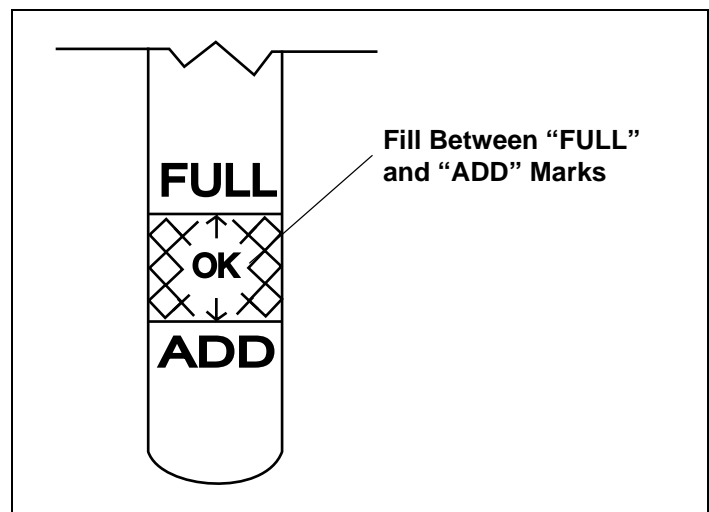

Figure 7. Engine Oil Level
- Keep oil level between "FULL" and "ADD" marks on dipstick. See Figure 7.
4. Unscrew and remove oil fill cap/dipstick from oil filler tube. Note oil level. If oil reading on dipstick is below "ADD" mark, slowly add oil to reach "FULL" level. See Figure 7 on page 4. Afterward, continue reading instructions below.